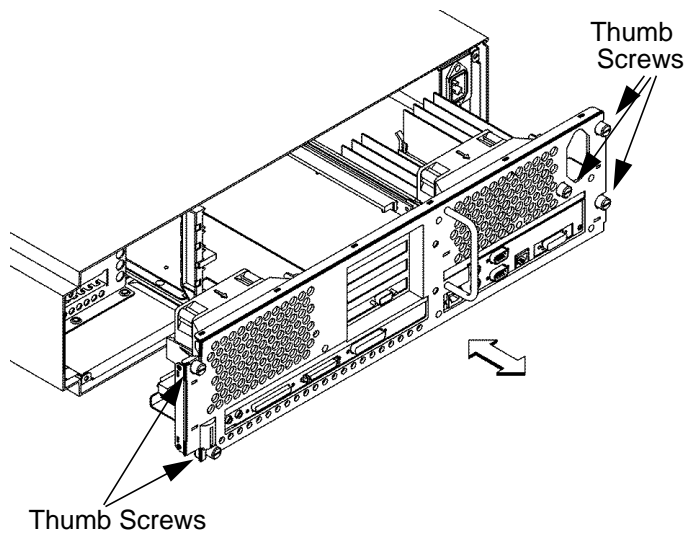

Figure 38
- 4 Completely loosen the five thumb screws on the rear of the system unit, as shown in Figure 38.
- 5** Place one hand on the top of the system unit and push, while pulling the handle on the rear panel with your other hand. See Figure 38.